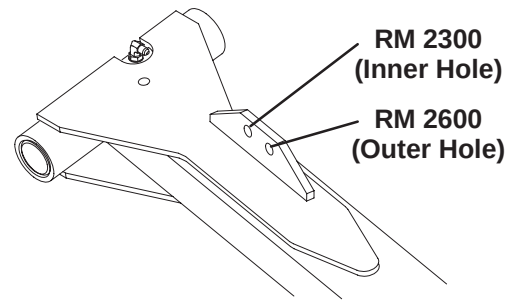

Figure 8
8. Secure the other end of the lift chain to the hole in the lift arm mounting tab with clevis pins and cotter pins. Use the appropriate hole in the lift arm as designated in Figure 8.